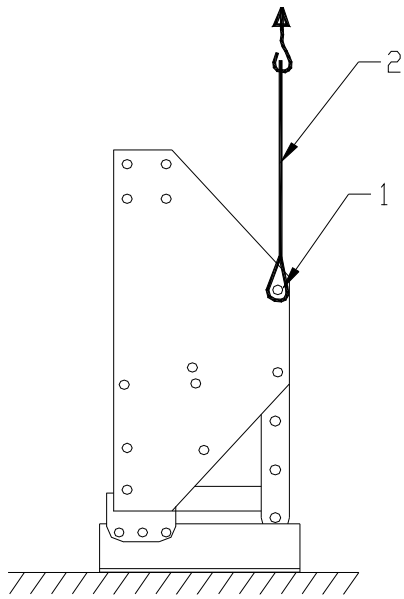

Fig. 1.
The machine is delivered on a pallet. To install the machine behind a tractor, handle as follows (see fig.1, 2, 3, 4, 5 and 6)
2. Firmly connect a sling 2 of approximately 3.5 mtr (11 ‘) with D- shackles to the holes 1 at each side of the machines as shown in Fig.1.
- @ The position of the blades at the rotor and the position of the rotor in the main frame is critical for the final job done. So check this carefully with the figures 1 to 6 and Chapter 12.